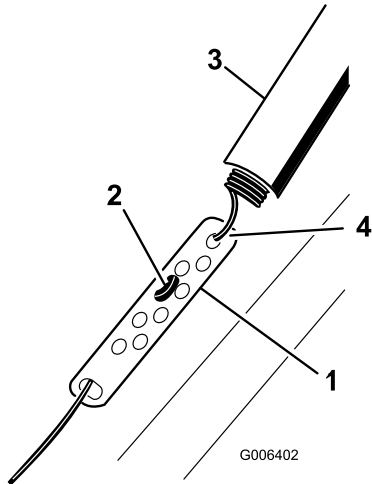

Figure 25
1. Slide up the spring cover and unhook the spring from the adjuster link (Figure 25).